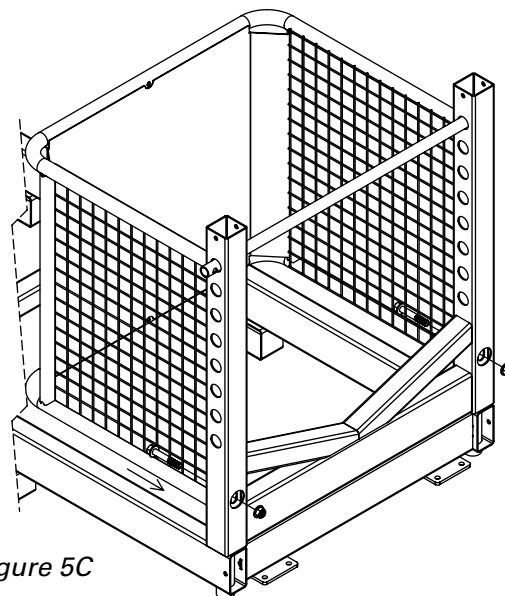

Figure 5C
3. Replace both of the assembly bolts to secure the extension basket to the base. (See Figure 5C).
1. Ensure that both of the extension baskets are in the storage position and all assembly hardware is installed and tightened. (See Figure 5C on page 5 for proper positioning).